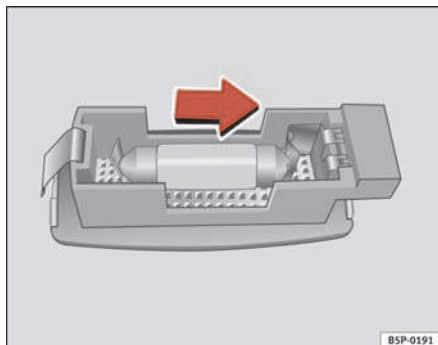

Fig. 192 Removing sunroof light
- Carefully remove the lamp, using the flat side of the screwdriver, as shown in the figure ⇒ fig. 192.
- Remove the lamp, moving it in the direction of the arrow and outwards ⇒ fig. 192. ■